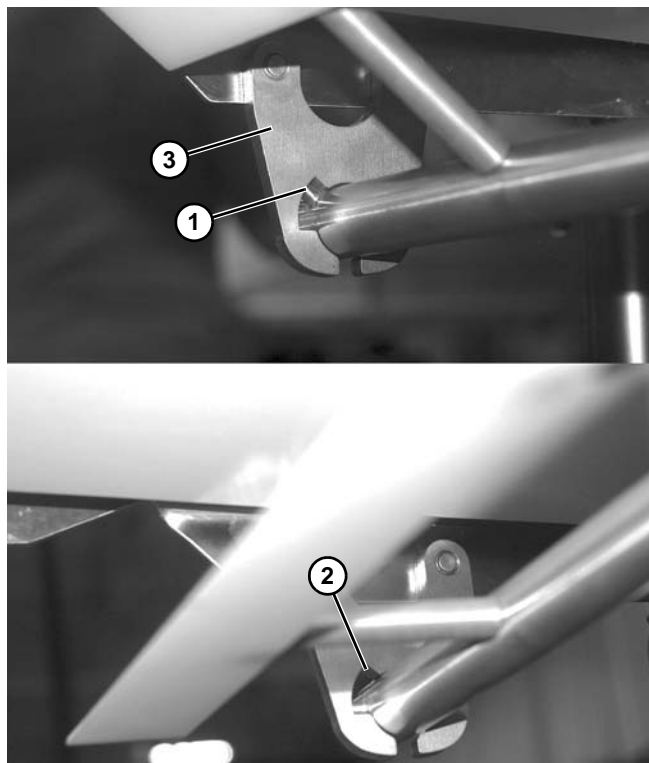

Figure 45
When raising scraper, make note that the pin (Figure 45, item 1) should remain in slot (Figure 45, item 2) in scraper adjust plate (Figure 45, item 3) as it is raised.